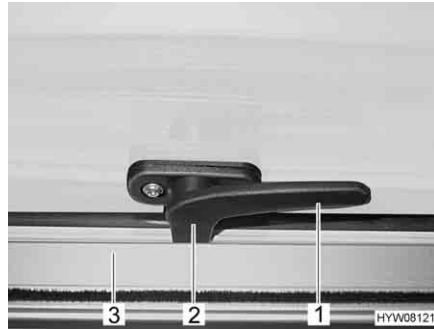

Fig. 82 Catch lever in "closed" position
- Turn the catch lever (Fig. 82,1) a quarter turn towards the centre of the window.
- Turn the catch lever (Fig. 82,1) a quarter turn towards the window frame. The locking catch (Fig. 82,2) is located on the inside of the window catch (Fig. 82,3).